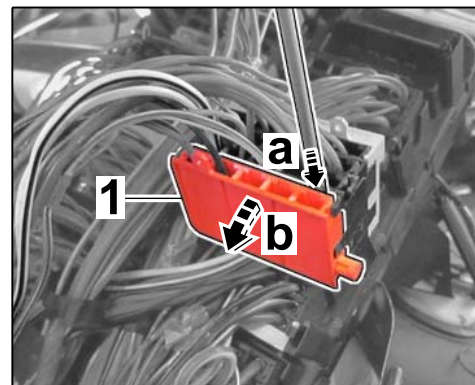

Figure 16
3.3.2 Insert a small screwdriver ⇒ *Figure 16-1*- into connector K ⇒ *Figure 16-a*-.
Disconnect plug socket (row 1.1 – 1.5) from connector K ⇒ *Figure 16-b*-.
3.3.4 Insert socket contact into chamber 1.2 ⇒ *Figure 16-arrow*-.